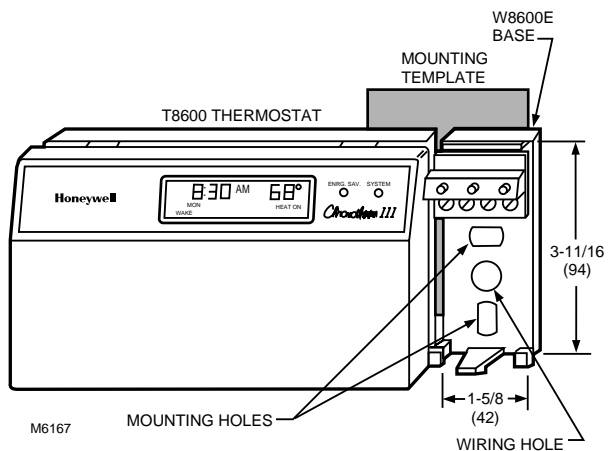

Fig. 21. Mounting the W8600E indicator next to the T8600 thermostat, dimensions in in. (mm).
- ❑ Hold the mounting template (included in the W8600E bag assembly) next to the thermostat as shown in Fig. 21.